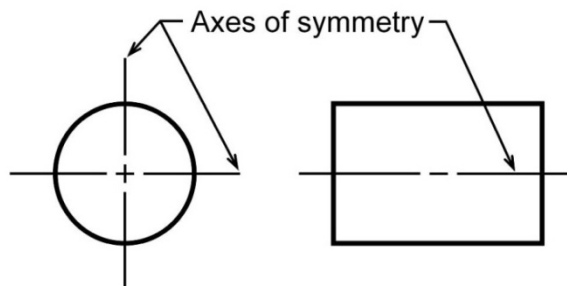
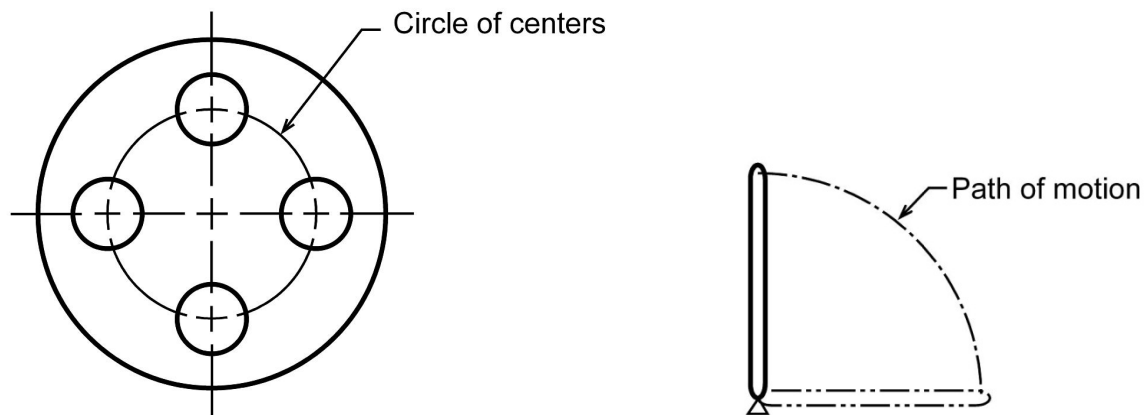
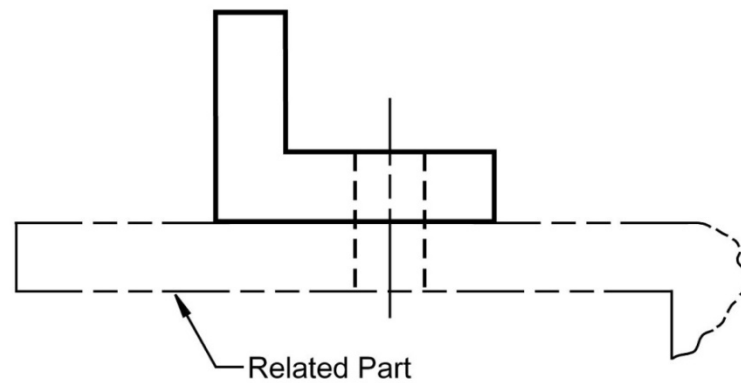
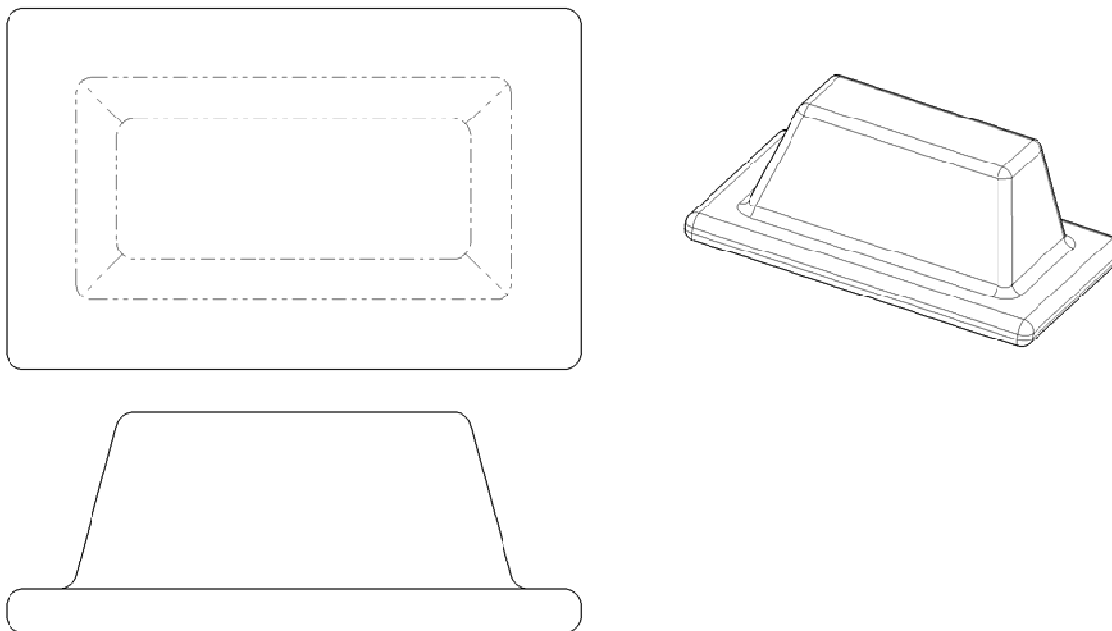

Figure 2-7: Axes of symmetry
Figure 2-8: Center line uses
Figure 2-12: Related part.
Figure 2-14: Phantom lines used to indicate a change in surface direction
Center lines represent axes of symmetry and are important for interpreting cylindrical shapes (Figure 2-7). They are also used to indicate circle of centers and paths of motion as shown in Figure 2-8.
- Rule 1. Center lines should start and end with long dashes (see Figure 2-8).
Phantom lines are used to indicate alternate positions of moving parts (see Figure 2-8). They may also be used to indicate adjacent positions of related parts and repeated detail as shown in Figures 2-12 and 2-13. They are also used to show fillets and rounds in the view that does not show the radius. In this case, the phantom lines are used to show a change in surface direction (see Figure 2-14).